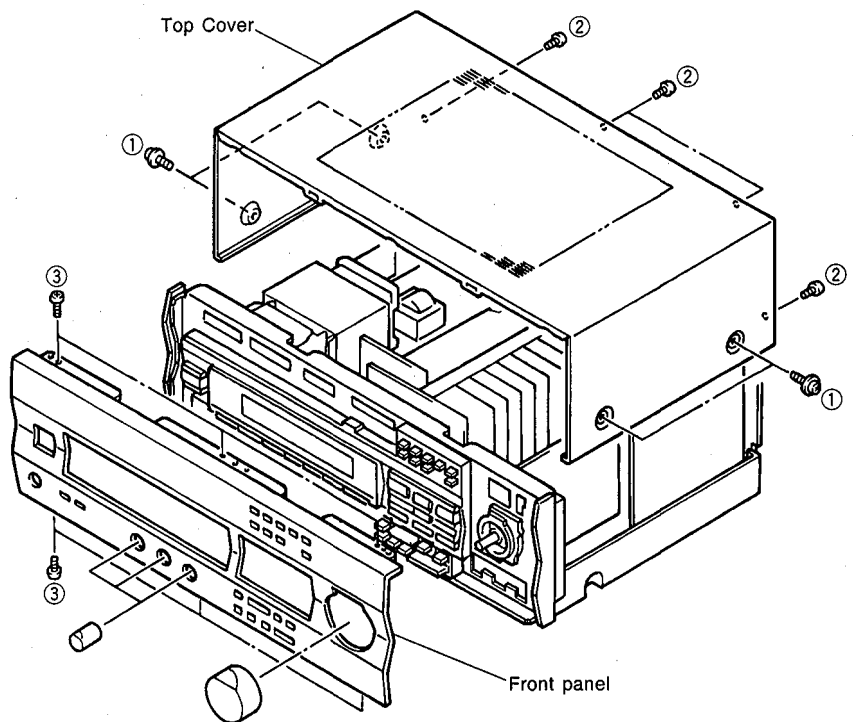

Fig. 1
a. Remove 4 screws (①) and 4 screws (②) in Fig. 1.
b. Remove 6 screws (③) in Fig. 1.